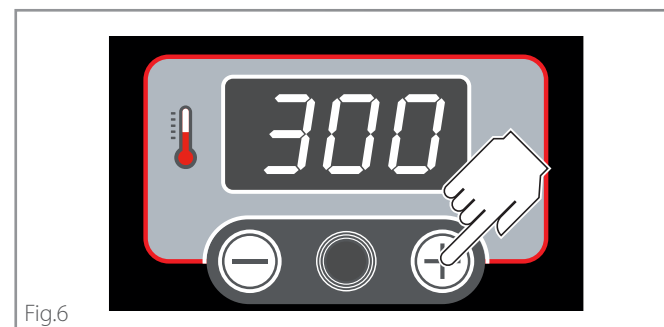
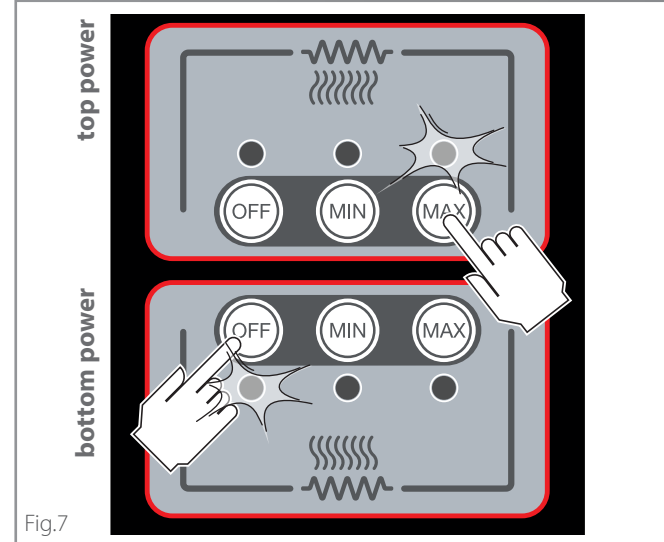

Fig.6
Fig.7
► Fig.6
► Fig.7
- Set a cooking cycle with the desired parameters (► **Fig.6 - Fig.7**).